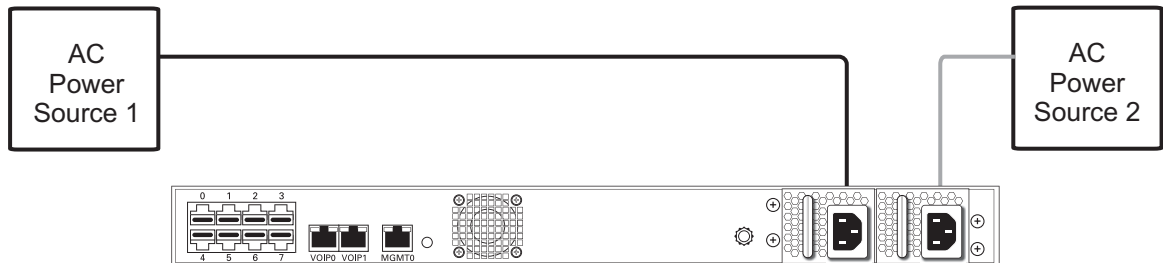

Figure 2.5 AC Power Connection
1. Connect an AC power cable to each AC connector of the 800 series gateway and an AC supply. See figure 2.5 on page 17.